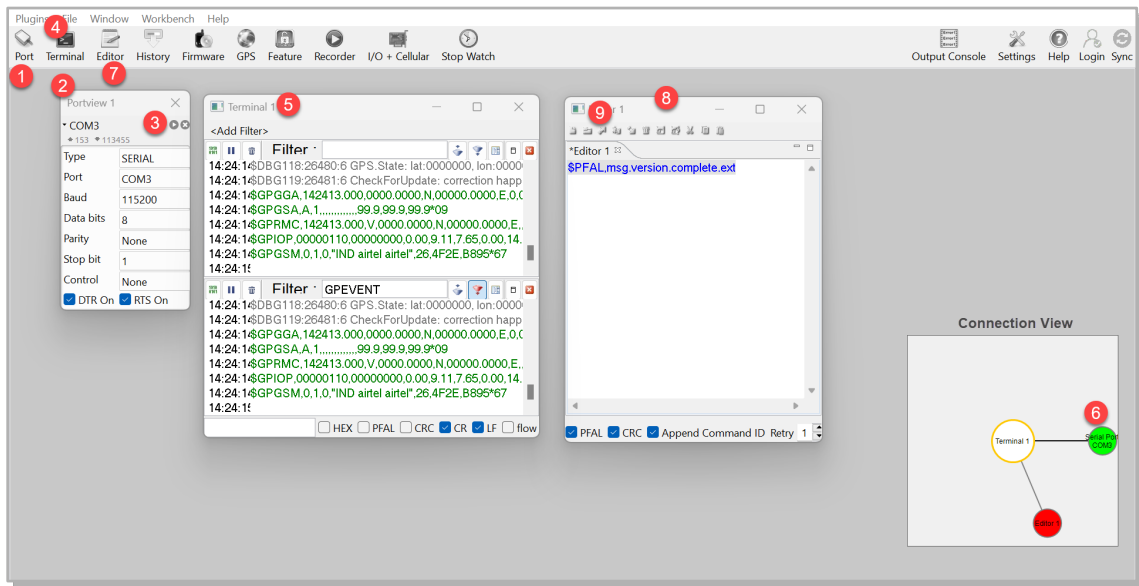

Figure 15.1: Workbench Interface Components
6. Click **Port (1)**, to open a new Com port, **Portview 1 (2)** displays (see **Figure 15.1**). In **Portview 1**, select the port to which the FOX3-2G/3G/3G device is connected (go to Device Manager > Ports > USB Serial Port (COMxx), where **xx** is the COM port to use). Select the following values for fields in **Portview 1**: